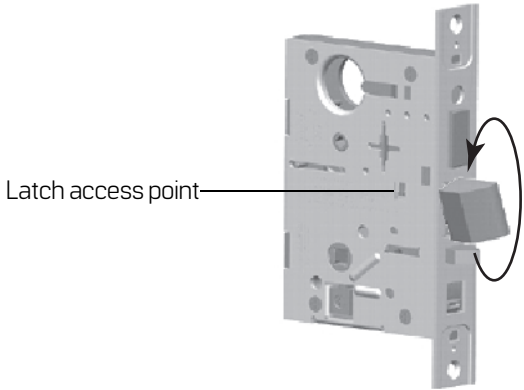

Figure 6.2 Rotating the latchbolt
2. To rotate the latchbolt, insert a flat blade screwdriver into the latch access point approximately 1/2" into the case and press to extend the latch out of the case. See Figure 6.2.